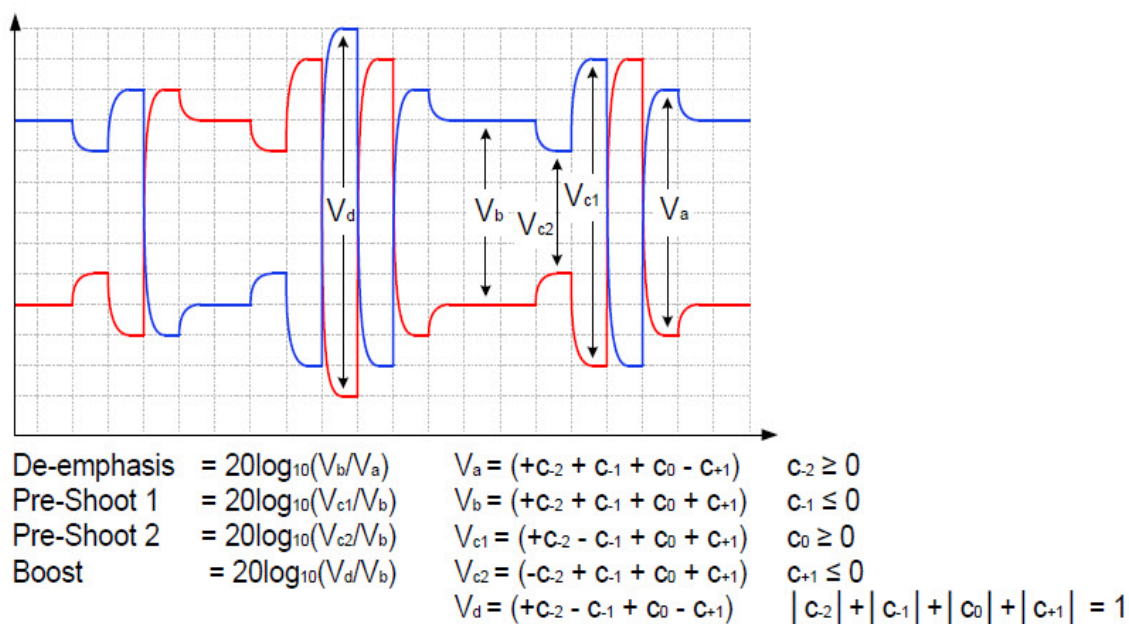

Figure 20 Waveform measurement points for preshoot and de-emphasis
64.0 GT/s PCIe signaling must support the full range of presets given in Table 8-2 (PCIe Base Specification Revision 6.0). Presets are defined in terms of ratios, relating the pre-cursor and post-cursor equalization voltages. The pre-cursor (V_c) is referred to as pre-shoot, while the post-cursor (V_b) is referred to as de-emphasis. This convention permits the specification to retain the existing 2.5 GT/s and 5.0 GT/s definitions for Tx equalization, where only de-emphasis is defined, and it allows preshoot and de-emphasis to be defined such that each is independent of the other. The tolerances in Table 8-1 (PCIe Base Specification Revision 6.0) also apply to 2.5 and 5.0 GT/s de-emphasis. The maximum swing, V_d , is also shown to illustrate that, when both c_{+1} and c_{-1} are nonzero, the swing of V_a does not reach the maximum as defined by V_d . The high frequency nature of PCIe signaling makes measurement of single UI pulse heights impractical. Consequently all amplitude measurements are made with low frequency waveforms as shown in Figure 20.
- 13 Computes their equalization voltages by using Matlab, and then calculates equalization ratios by using the formulae stated in Figure 20 (Figure 8-6 of the spec).